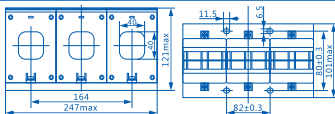

Figure 4 Outline and Installation Size of NJBK2-800 Protector
3.3 Outline and installation size of NJBK2-800: see Figure 4, unit: mm.